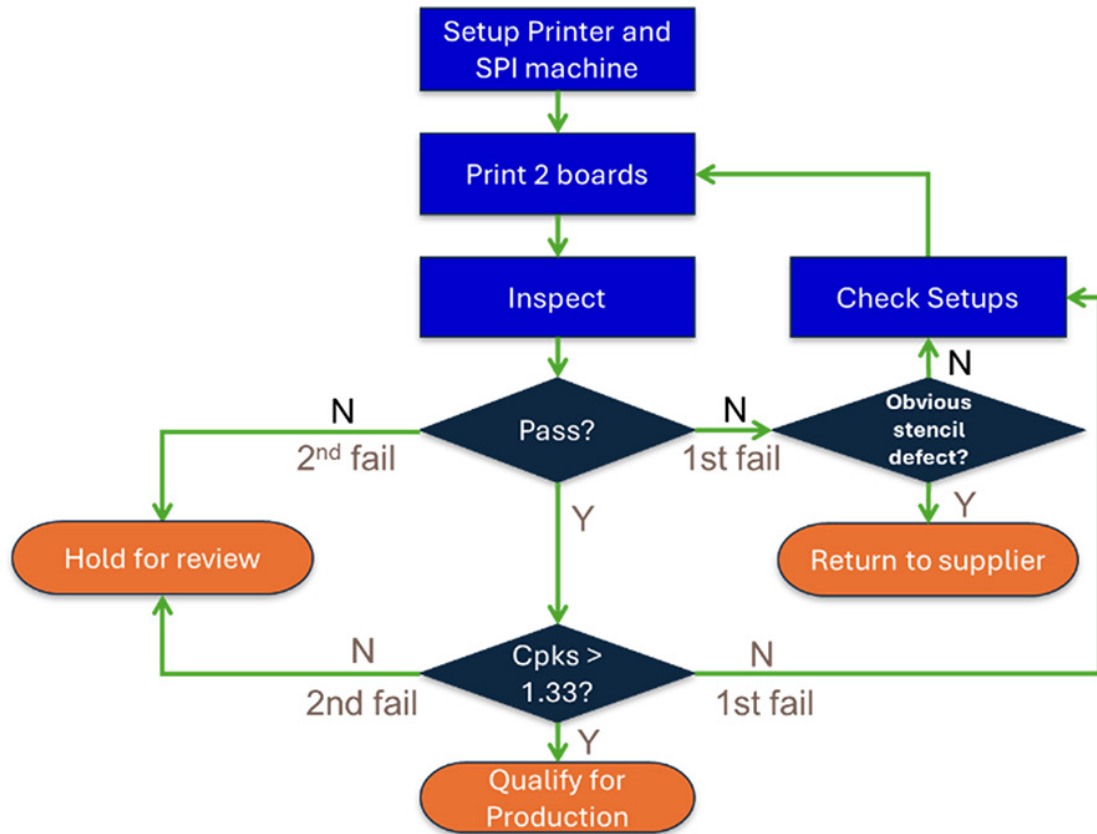

Figure 16. SPI stencil verification flow chart.
2. Always use SPI to verify a stencil before a run. Using the two-print test shown in **Figure 16** would have immediately indicated the differences in Stencil C.
3. Cut test coupons similar to those shown in Figure 16 in the corners of the stencil for ease of measurement. This practice has been recommended since 2014, but was not followed in this experiment. It will be reintegrated into the next revision of the SMTA Miniaturization Test Vehicle (MTV) stencil artwork.